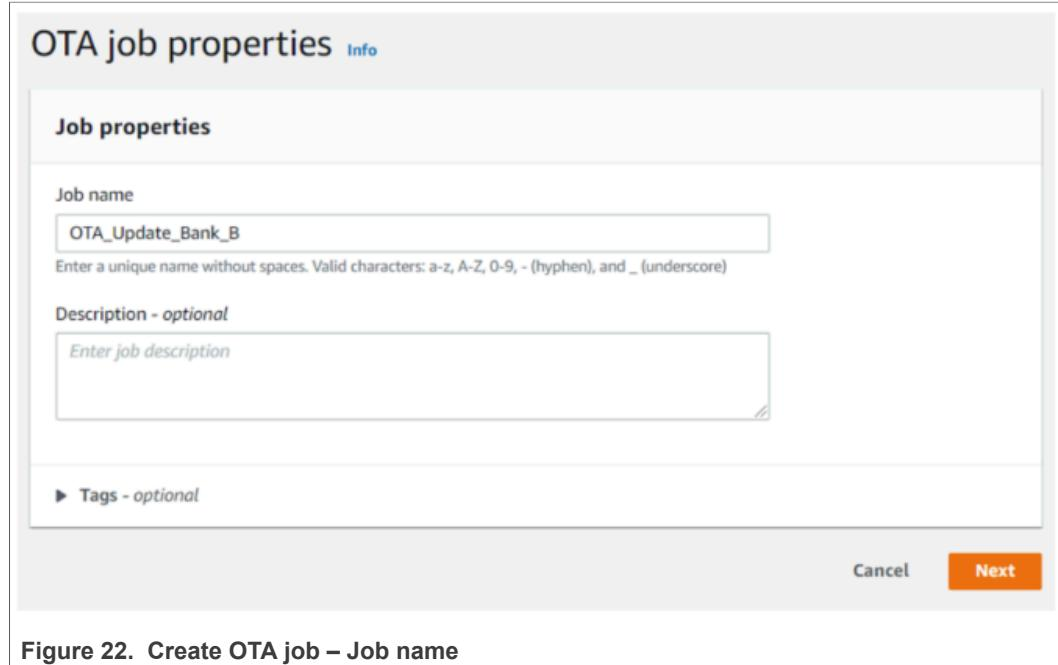

Figure 22. Create OTA job – Job name
3. The OTA Job Properties window appears. Provide a job name as shown Figure 22: